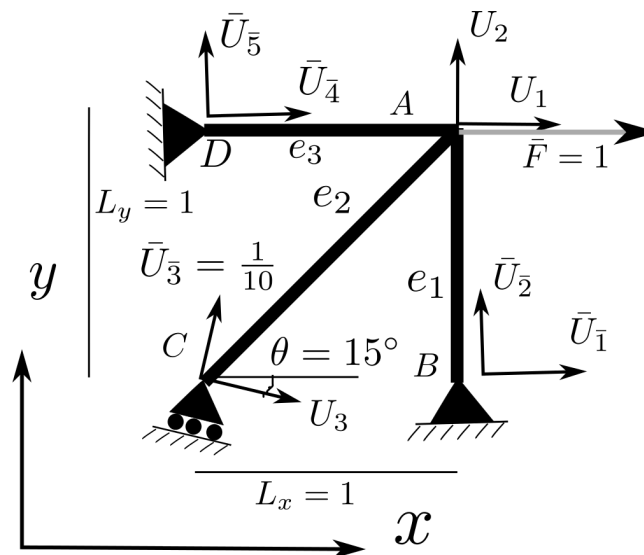

Figure 1: 3 dof truss with an angled support
- Obtain the stiffness matrix for finite element method, using equation (373) in section 2.2 of course notes. **(10 Points)**
- For the truss shown in figure the prescribed dofs are: $\bar{U}_1 = \bar{U}_2 = \bar{U}_4 = \bar{U}_5 = 0; \bar{U}_3 = \frac{1}{10}$. Other information is provided in the figure 1.